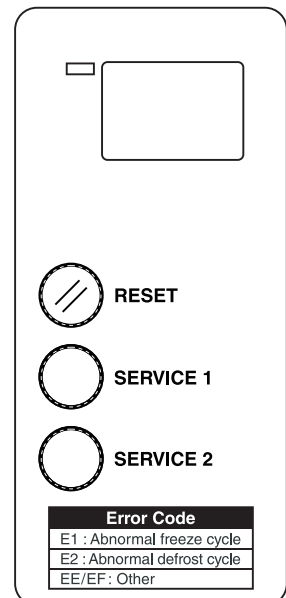

Fig. 7
1) Remove the front panel (lower). Press the "RESET" button on the control box. See Fig. 7. Replace the front panel (lower).